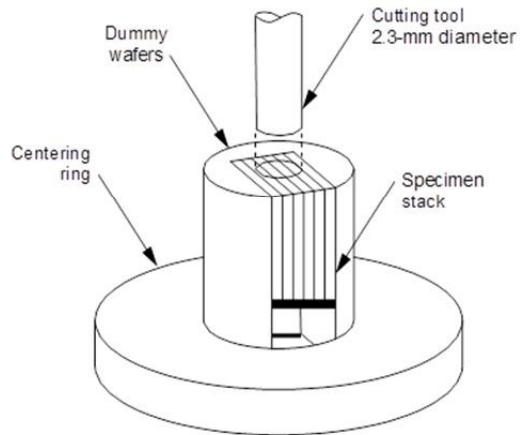

Figure 4-9 Cross section specimen preparation
3. Pressure bond the specimen stack. A spring-loaded vise is used to bond the specimen stack together and the stack is cured under pressure for 10 min at 130 °C on a hot plate to obtain a strong bond with minimum glue thickness. When the curing process is complete, the assembly is cooled to room temperature (Figure 4-9, Step 3).
4. Cut the cylindrical specimen stack. The stack is glued into a slotted specimen mount with mounting wax. A 2.3 mm diameter cutting tool is used to cut a cylinder from the middle of the stack (Figure 4-9, Step 4)